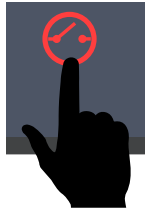

Figure 140. Open Contactor Button
1. Press the **Open Contactor button** (Figure 140) on the digital controller. If the generator is running in Auto mode, stop the engine and place the unit in Semi-Auto mode.